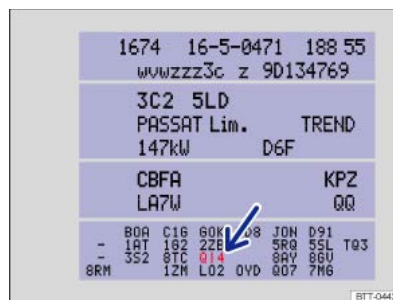

Fig. 250 Vehicle data sticker with PR number for the relevant service.
- From the PR number on the vehicle data sticker ⇒ Fig. 250 (arrow) ⇒ Technical data .